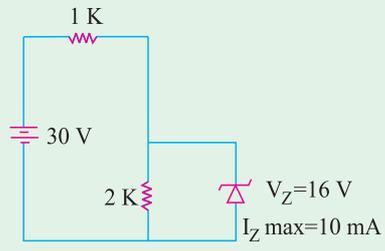

Fig. 54.38
3. Check up if Zener diode of Fig. 54.38 is reverse-biased as well as properly voltage-biased. Calculate diode current and power dissipation. [6 mA, 96 mW]